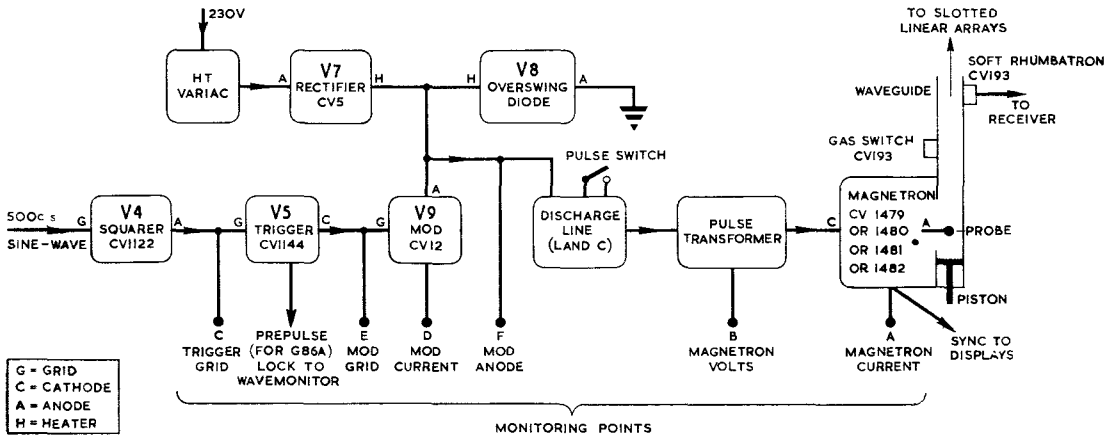
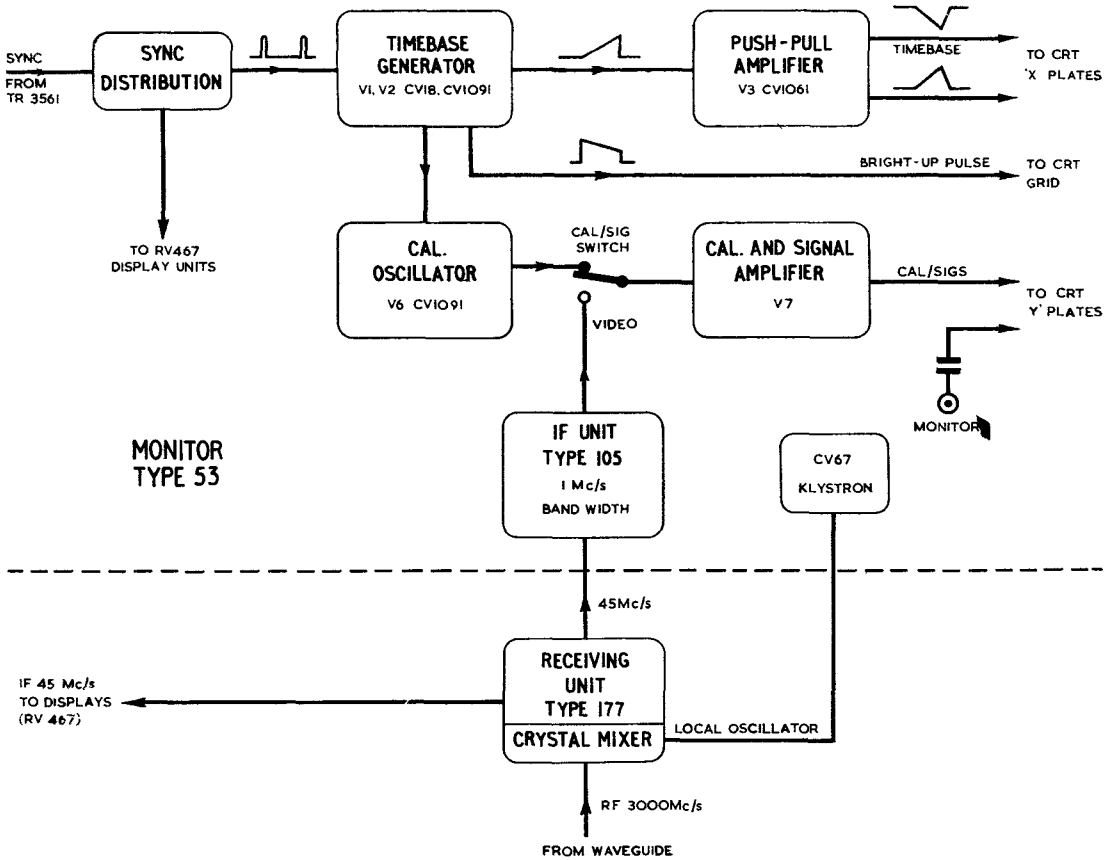

Fig. 30. TR.3561 : block diagram
Fig. 31. Monitor Type 53 and receiving unit Type 177 : block diagram
82. The block diagram of the modulator and transmitter (*fig. 30*) and of the monitoring unit and head amplifier (*fig. 31*) have been included for general guidance. For detailed circuitry refer to A.P.2525L.
Monitor Type 53 (*fig. 31*)